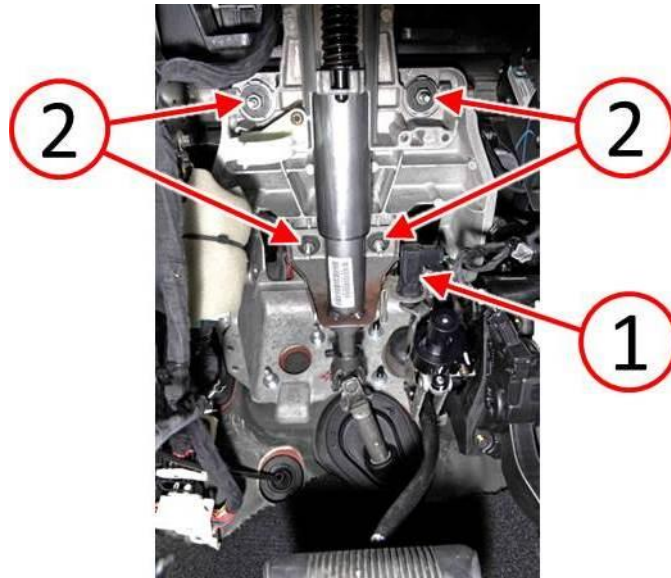

Fig. 7 Steering Column Fasteners And Brake Pedal Sensor
16. Raise the steering column into normal position and hand install the mounting nuts (2) (Fig. 7).
17. Center steering column in the dash opening and tighten the mounting nuts (2) to 27 N·m (20 ft. lbs.) (Fig. 7).
18. Install the brake pedal position sensor (1) as specified in the following steps (Fig. 7).